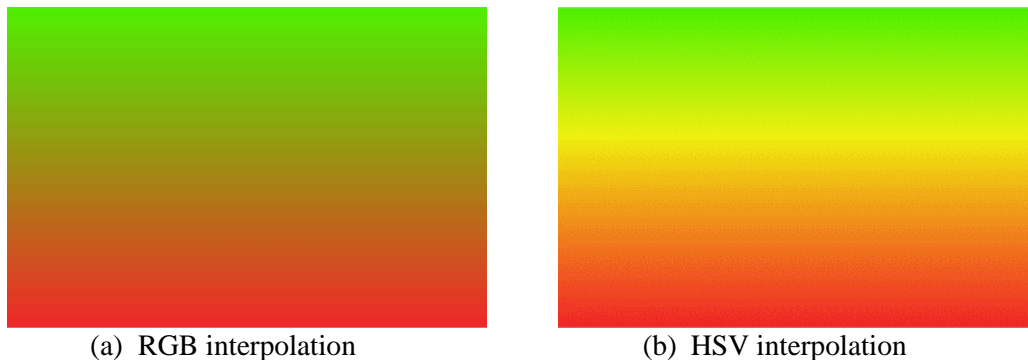

Figure 16: Example of RGB vs. HSV interpolation.
- **Linear-HSV mode:** identical to **Linear-RGB** mode except that interpolation is performed in Hue Saturation Value (HSV) color space rather than in RGB color space. Use of this color space provides some color mappings which are not possible in RGB. An example is shown in Figure 16.